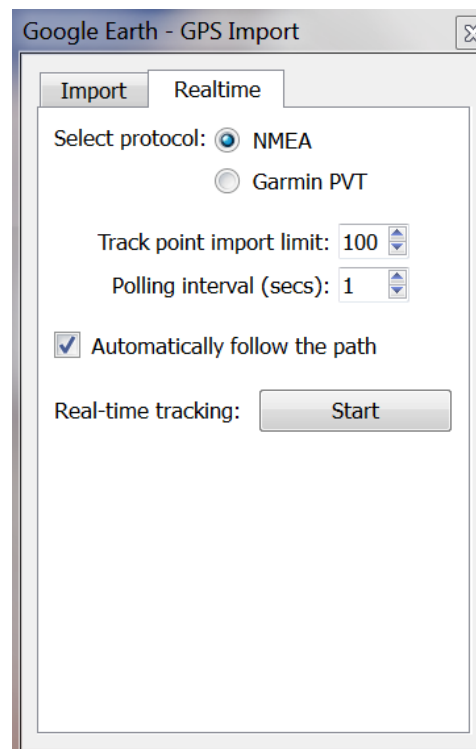

Figure 72
4. Click the Realtime tab (Figure 72)